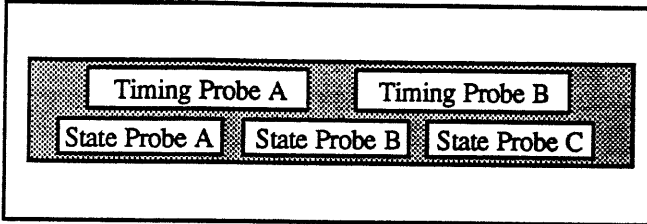

Figure 2-6: Logic Analyzer Test Card
The Logic Analyzer Test Card consists of two 8-bit CMOS counters (A and B), a clock, and simple decoding logic. Refer to Figure 2-6 and schematic 166-004601 at the end of this manual. Each CMOS counter normally counts from (00) HEX to (FF) HEX. When the A counter reaches (40) HEX, the decode logic resets the B counter to (00) HEX.